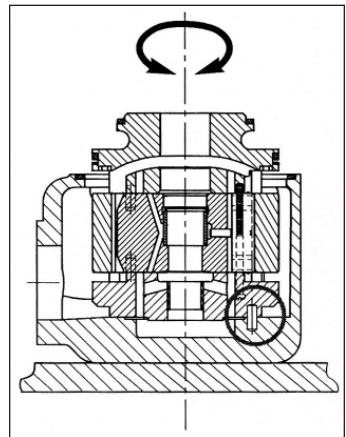

Fig. 36
7. Check if the dowel pin is in its position in the housing by trying to rotate the cartridge (Fig. 36).